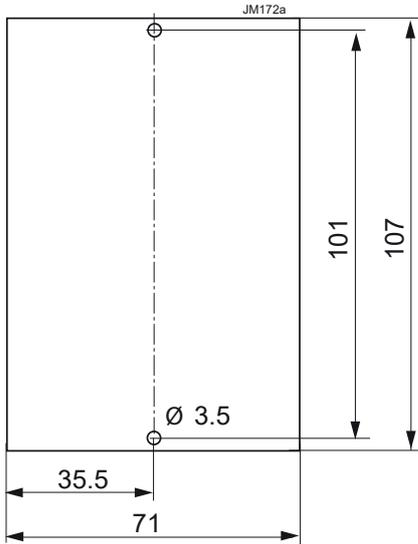

Fig. 13
- Insulation plate HZZ01205-G for easy and safe PCB-mounting; see fig. 13.